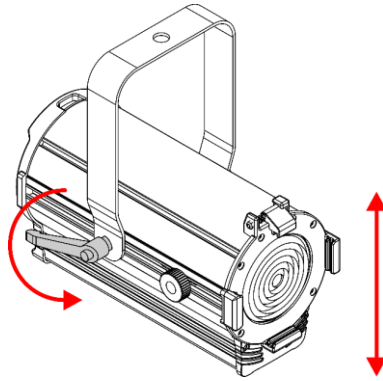

Fig. 09
- 01) Turn the **adjustment handle (06)** counterclockwise to loosen it.
- 02) Tilt the device to the desired angle (see Fig. 09).
- 03) Turn the **adjustment handle (06)** clockwise to tighten it. Make sure that the device cannot move freely after the **adjustment handle (06)** is tightened.